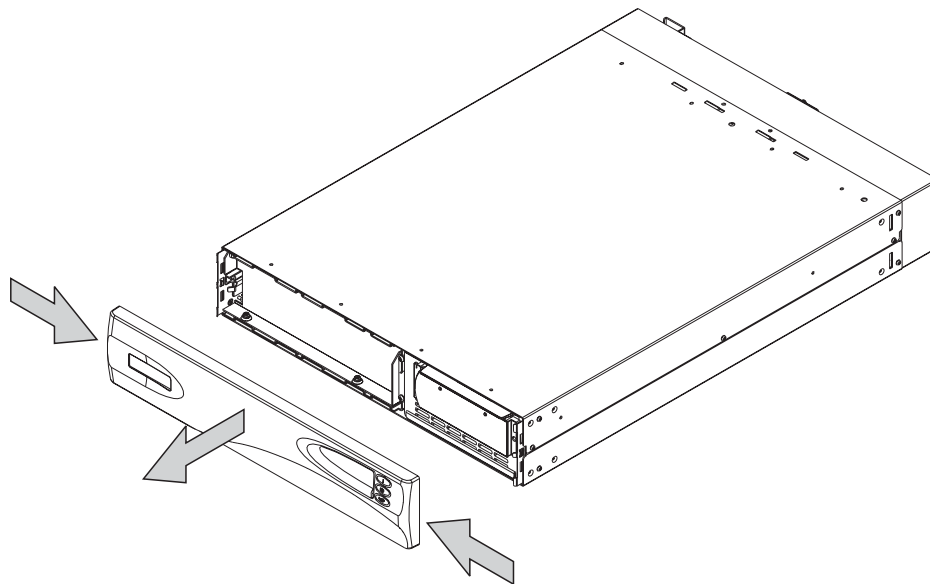

Figure 112. Removing the front panel of the uninterruptible power supply
3. Remove the front panel by pressing the sides inward, then pulling on both ends (Figure 112).